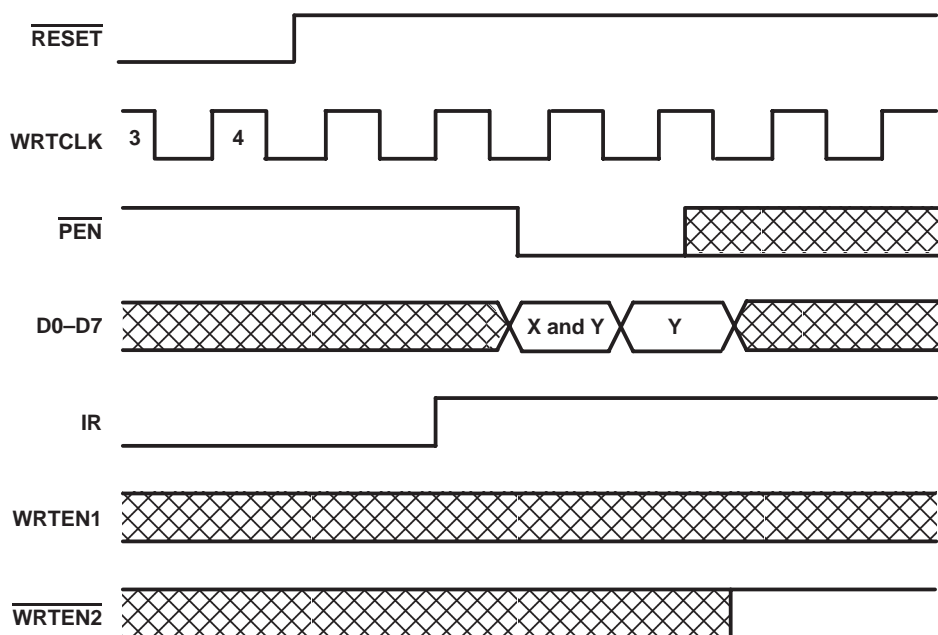

Figure 4. Programming X and Y Separately
Program enable ( $\overline{\text{PEN}}$ ) should be held high throughout the reset cycle.  $\overline{\text{PEN}}$  can be brought low only when IR is high and WRTCLK is low. On the following low-to-high transition of WRTCLK, the binary value on D0–D7 is stored as the almost-empty offset value (X) and the almost-full offset value (Y). Holding  $\overline{\text{PEN}}$  low for another low-to-high transition of WRTCLK reprograms Y to the binary value on D0–D7 at the time of the second WRTCLK low-to-high transition. When the offsets are being programmed, writes to the FIFO memory are disabled, regardless of the state of the write enables (WRTEN1, WRTEN2). A maximum value of 255 can be programmed for either X or Y (see Figure 4). To use the default values of X = Y = 64,  $\overline{\text{PEN}}$  must be held high.